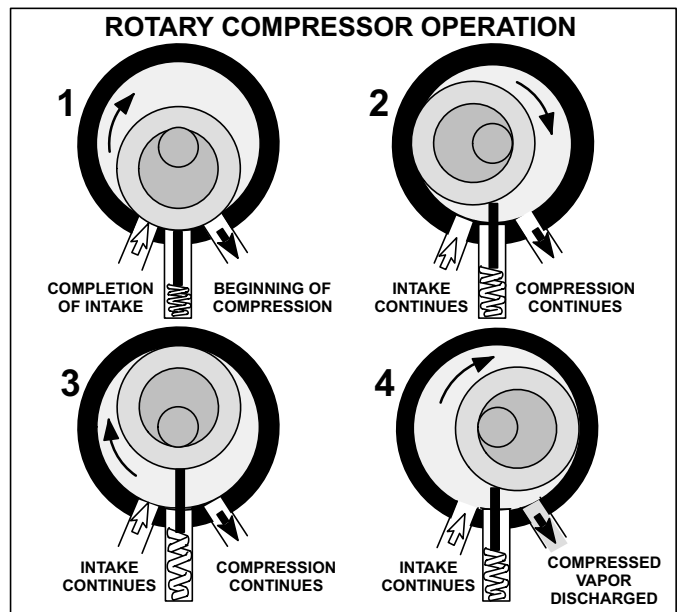

FIGURE 5
Figure 5 illustrates the four steps in a rotary compressor cycle. The spring-loaded blade is compressed fully at the beginning of an exhaust cycle. At this instant the compression is beginning (1). The roller rotates and compression continues (2). When the blade is fully extended the suction port is separated from the discharge port (3). Intake continues and the compressed vapor is discharged (4). A rotary compressor has a continuous intake cycle.